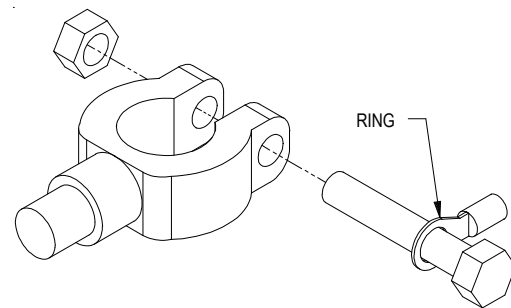

Figure 3
**Electrical Installation** – The output leads of the charger are terminated ring lugs. Install the ring lugs on the bolt-head side of the battery terminal (see figure 3). Route and secure the AC cord and the output wiring away from the gas line, carburetor or other hot, sharp or moving and pinch